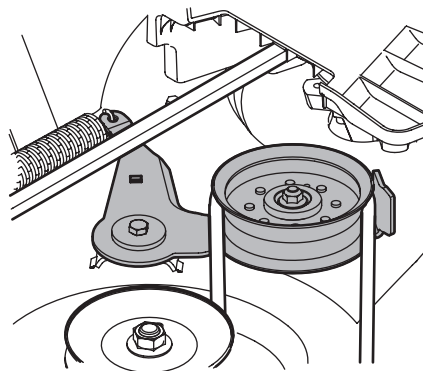

Figure 4-3
- Working on the right side of the tractor, insert a $\frac{3}{8}$ " drive ratchet wrench, set to *tighten*, into square hole found on the idler bracket. See Figure 4-3.
- Pivot the wrench forward to move the deck drive pulley forward. See Figure 4-3.